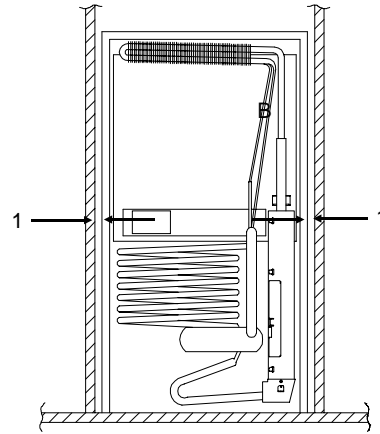

Figure 4
### Side Wall Clearance - Figure 4
1. Figure 4 illustrates the requirement to minimize the clearance at the sides of the refrigerator. The clearance is not to exceed 1/2 inch. Side clearances in excess of 1/2 inch must be either filled with Fiberglas batting or blocked with paneling, etc.